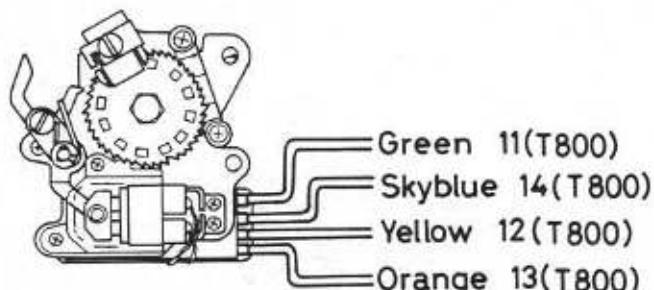

Fig. 40
- 39-1 Solder the four lead wires on S200 as shown in Fig. 40.